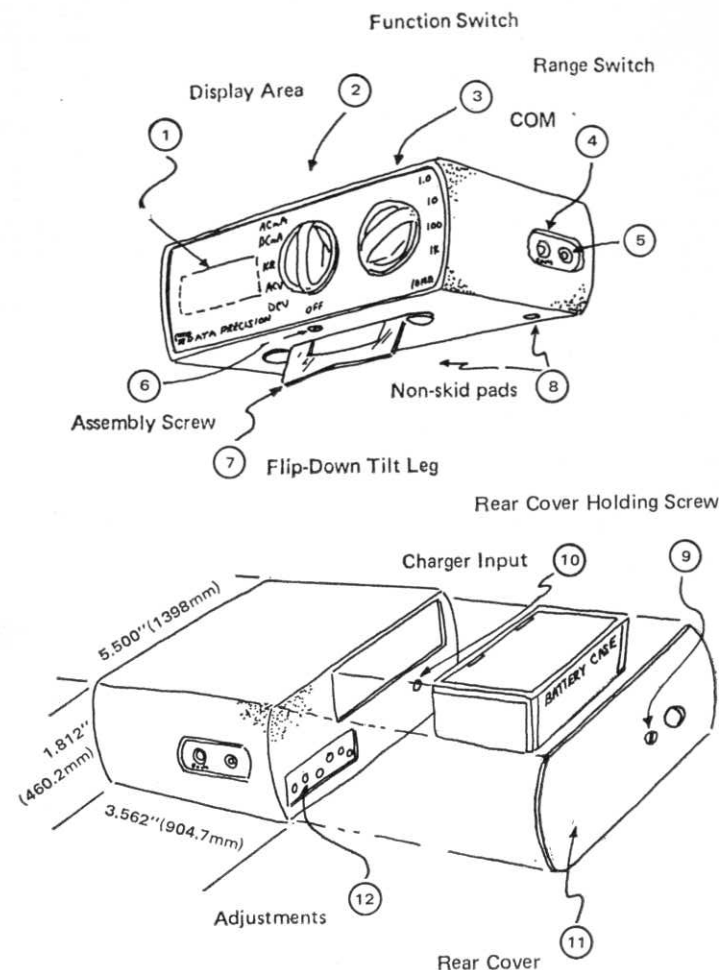

Figure 1. Key Features of Your Model 245 DMM
1. If AC line power is to be used, connect charger to AC source, and attach cord to Charger Input (Figure 1 - Item 10). Battery power is automatic when the Function MODE switch is operated to select a particular measuring mode.
2. Select appropriate measuring function mode (Figure 1 - Item 2).
3. Select appropriate full scale range (Figure 1 - Item 3).
4. Connect probes (Figure 1 - Items 4 and 5). Make measurement.
5. Read display (Figure 1 - Item 1).
CALIBRATION adjustments (Fig. 1 - Item 12) are accessible behind the plastic cover (Fig 1 - Item 11).